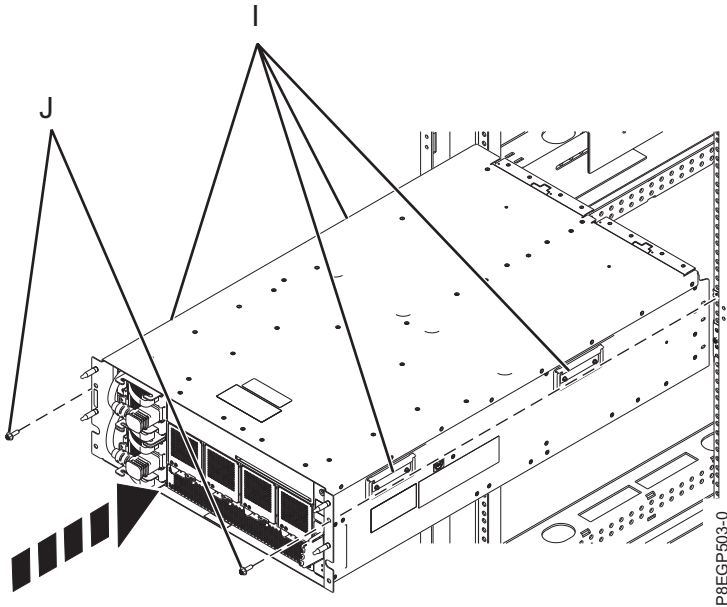

Figure 8. Installing the drawer into a rack
- Using three people, have two people hold onto the four handles **(I)**, as shown in Figure 8, and one person in front of the drawer to guide the drawer. Lift the drawer and position it over the front of the rails.
- Install the two M5 securing screws **(J)** through the drawer and into the nut clips on the left and right rails. See Figure 8.